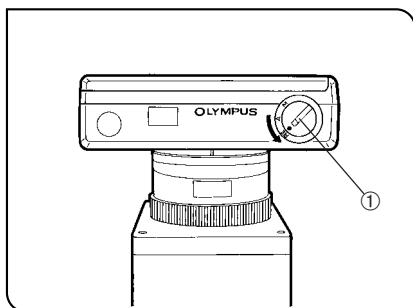

Fig. 13
2. Rewinding before the end of the film is reached (Fig. 13)